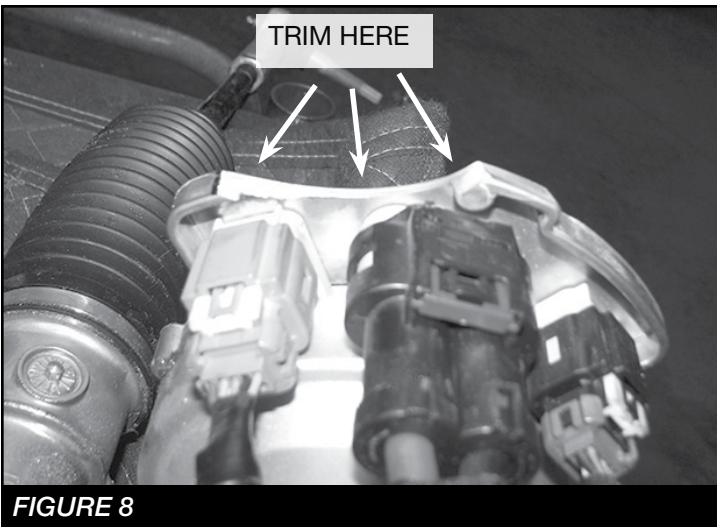

FIGURE 8
11. Due to vehicle variances, the steering rack will need to be removed and trimmed on the driver side where the wiring harnesses are located. **SEE FIGURE 8**